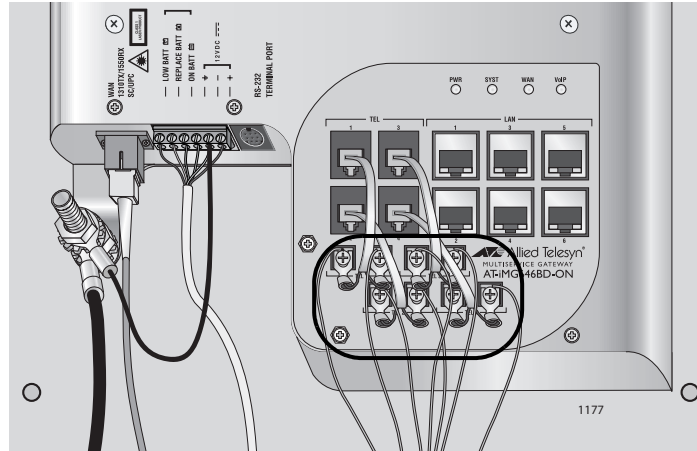

Figure 54. Connecting the Telephone Wires
1. Connect the telephone wires to each pair of telephone terminal posts on the gateway, as shown in Figure 54.